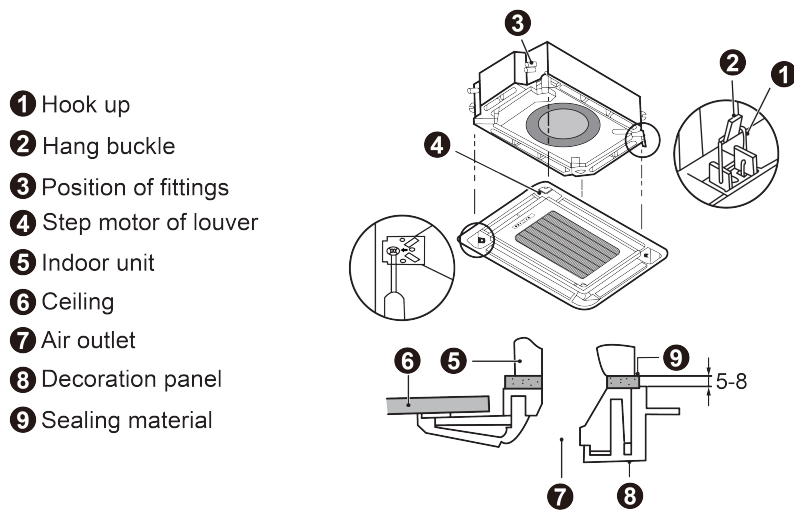

Fig.4.4.4
- (1) Detach the panel's Corner Cap, there is a mark "piping side" on one of the 4 corners, adjust the panel direction so as to keep the mark and fittings on the same corner.
- (2) Temporarily hang the panel to body (there are four hangers on each corner of the panel, hang the hangers to corresponding hooks on the body), as shown in Fig.4.4.4.
- (3) Detach the air inlet grille from panel, make a wiring connection of signal receiver. Notice that the connection wire is not stuck in the middle of body and panel, or it may cause air leakage and lead to condensation water drop.
- (4) Tighten 4 screws at each corner of panel respectively, fix the panel on the body firmly.
- (5) After tightening screws, reinstall the air inlet grille.